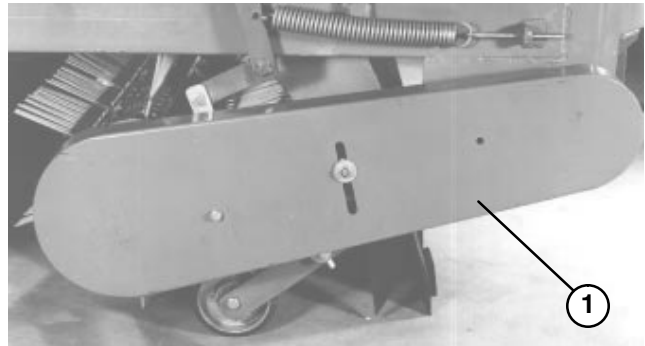
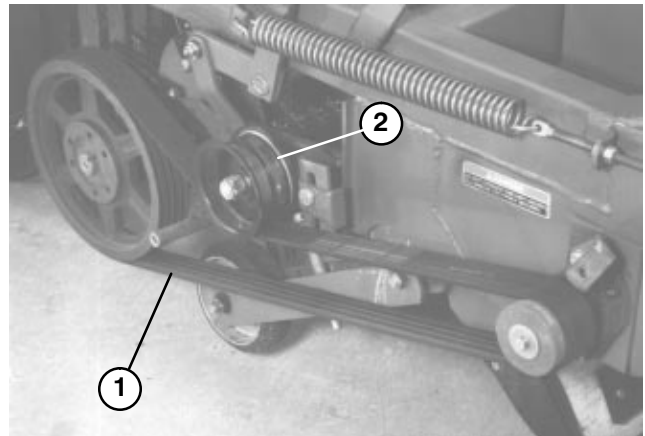

Figure 40
Figure 41
Reel Drive Belt (Fig. 40–41)
A. Remove (2) capscrews, nut, retaining nut and washer securing lower belt guard to frame (Fig. 40). Remove guard.
B. If belt has too much slack, loosen idler pulley nut (Fig. 41), press down on idler pulley until desired tension is obtained and retighten idler pulley nut.
C. If belt is too tight, loosen idler pulley nut (Fig. 41), pull upward on idler pulley until desired tension is obtained and retighten idler pulley nut.
3. Remove lower belt guard (Fig. 40) and reel drive belt (Fig. 41).
4. Remove (2) capscrews, lockwashers and nuts securing reel shaft bearings to reel support arms on each side of sweeper. Lower flex tip reel to the ground.
1. Remove lower belt guard (Fig. 40) and reel drive belt (Fig. 41).